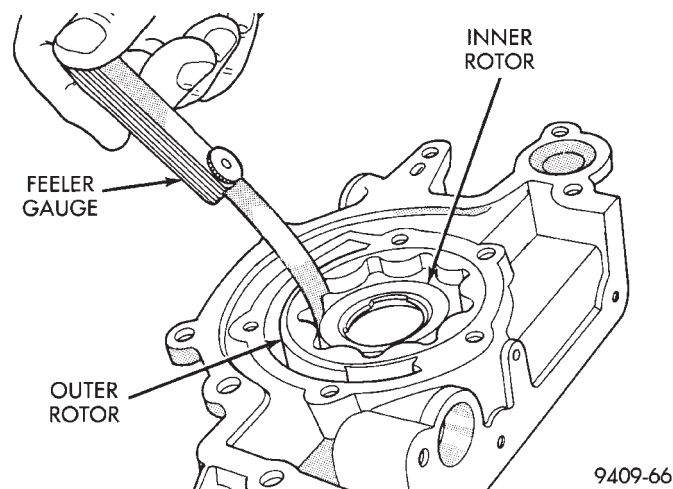

Fig. 106 Measuring Clearance Between Rotors
(6) Install inner rotor into pump housing. If clearance between inner and outer rotors (Fig. 106) is .203 mm (.008 inch) or more, replace both rotors.